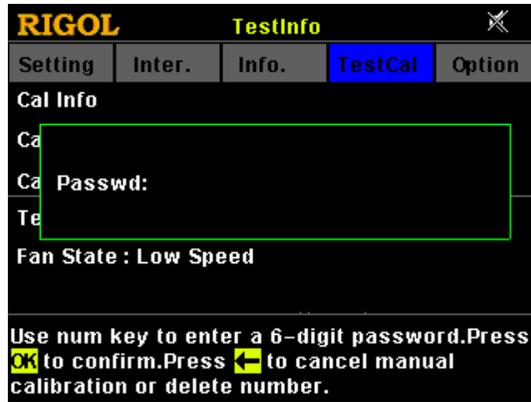

Figure 2-2 Calibration Password Input Box
- (3) Press **OK**. Then, a message is displayed, prompting you to enter the password. Enter the correct calibration password. For the operation methods, refer to the descriptions of the help information below the instrument interface, as shown in Figure 2-2.